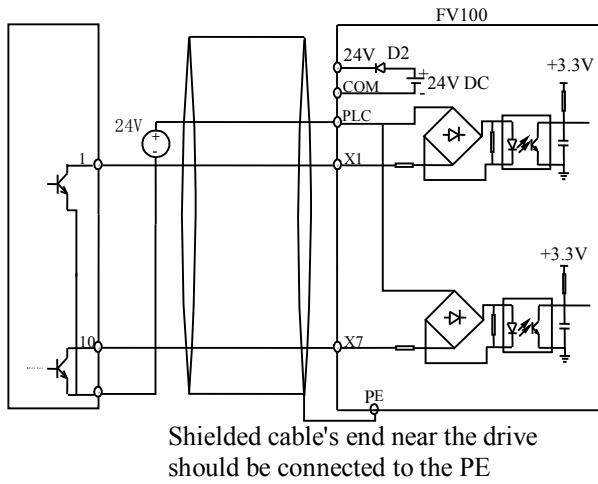

Fig 4-11 Use external power supply for source connection
3) Use external power supply for source connection (Make sure the PLC and 24V terminal is disconnected). As shown in the fig.4-11